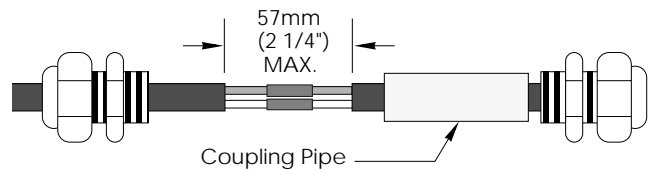

Figure 3 Maximum Jacket Gap
7. Check distance from jacket-to-jacket as shown in Figure 3.